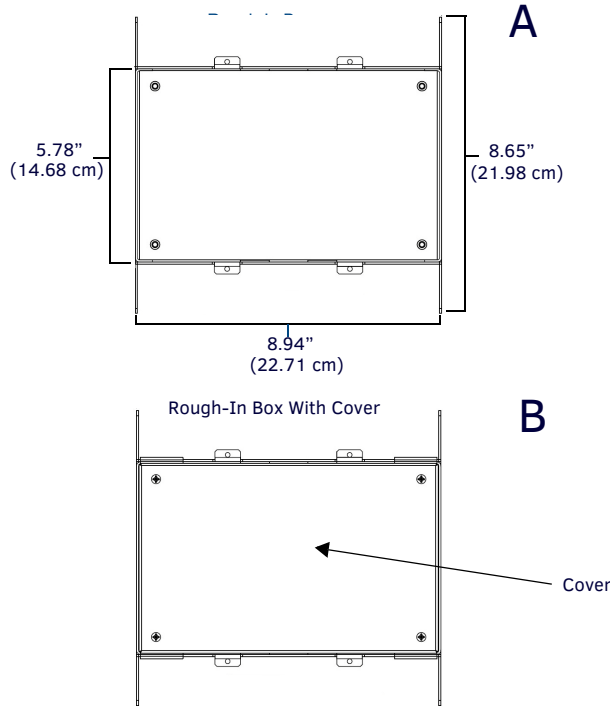

FIG. 1 CB-MXP10 ROUGH-IN BOX - WITH FRONT COVER
- Remove the rough-in box cover (B in FIG. 1) before installation of the Rough-In Box (A). *Note: the cover MUST be removed before drywall installation. The cover may be reinstalled after drywall installation using 4-40 screws (not included).*
NOTE: The front cover of the CB-MXP10 (B in FIG. 1) should be installed after the appropriate wiring is pulled to the Rough-In Box. The cover should then be removed prior to the installation of the touch panel back box and discarded.